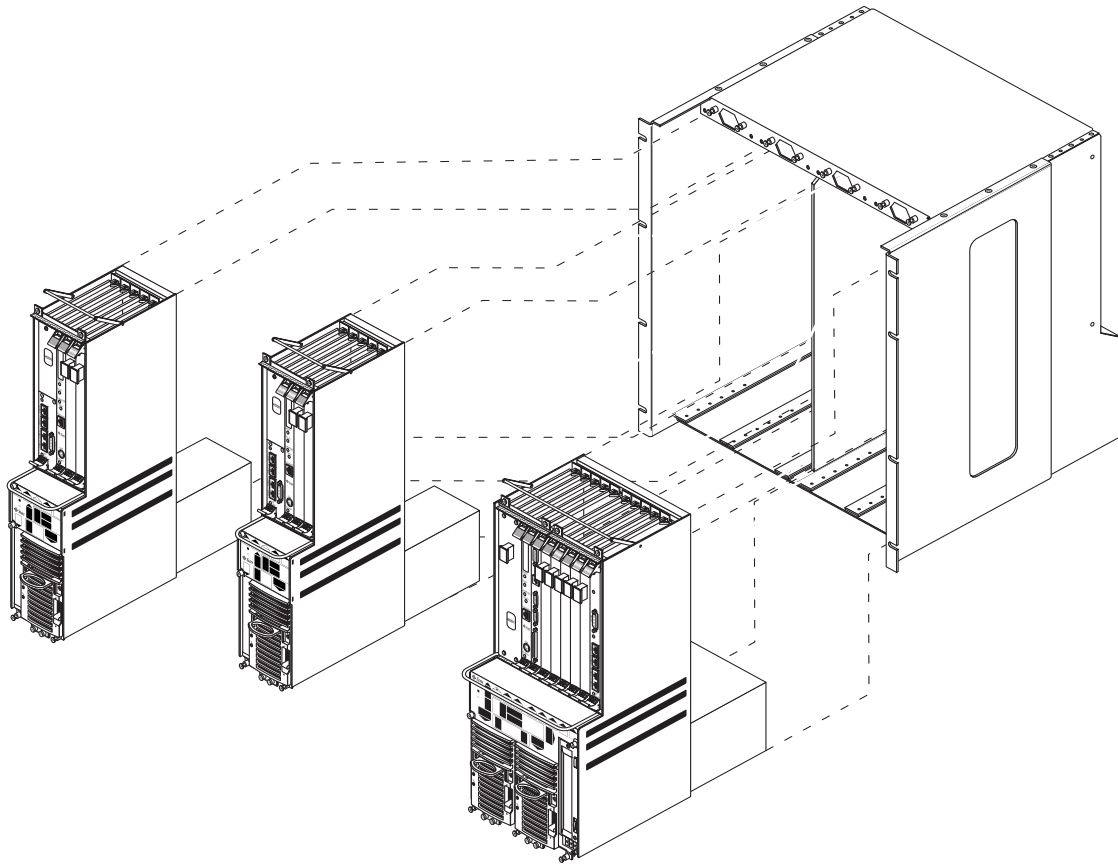

FIGURE 3-5 One Netra CT 810 Server and Two Netra CT 410 Servers in a Chassis
- One Netra CT 810 server and one or two Netra CT 410 servers (FIGURE 3-5)